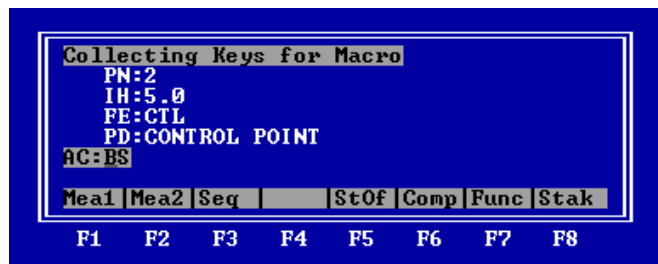

Figure 10-6 Start recording a macro
1. Press <Alt><F10> to begin recording a macro. SDMS Collector briefly displays the message “Collecting Keys for Macro”, as shown in Figure 10-6.